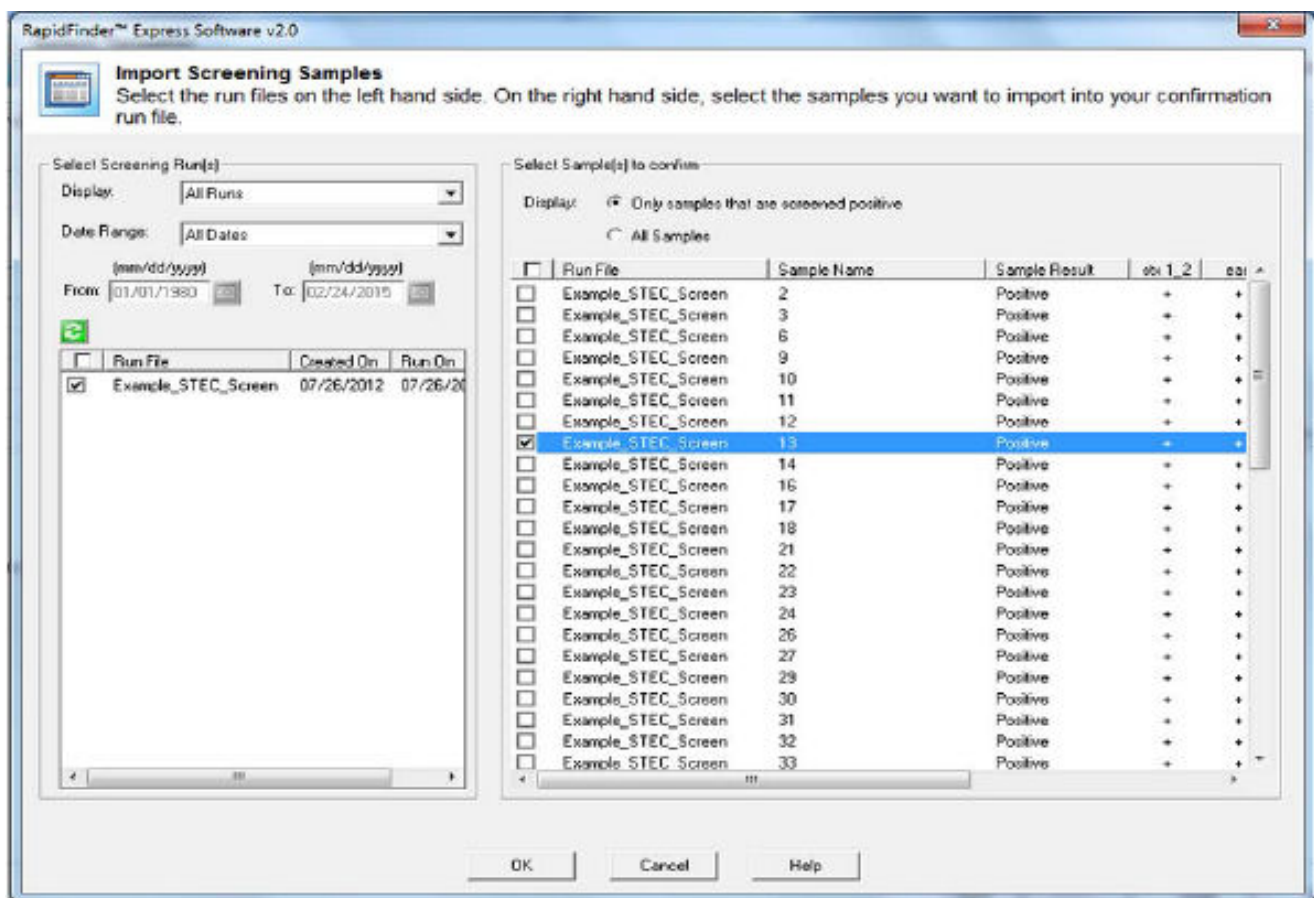

Fig. 3 Import Screening Samples window
1. In the **Select Targets** screen, select **STEC Confirm**, then click **Import Screening Samples** (see Figure 3).